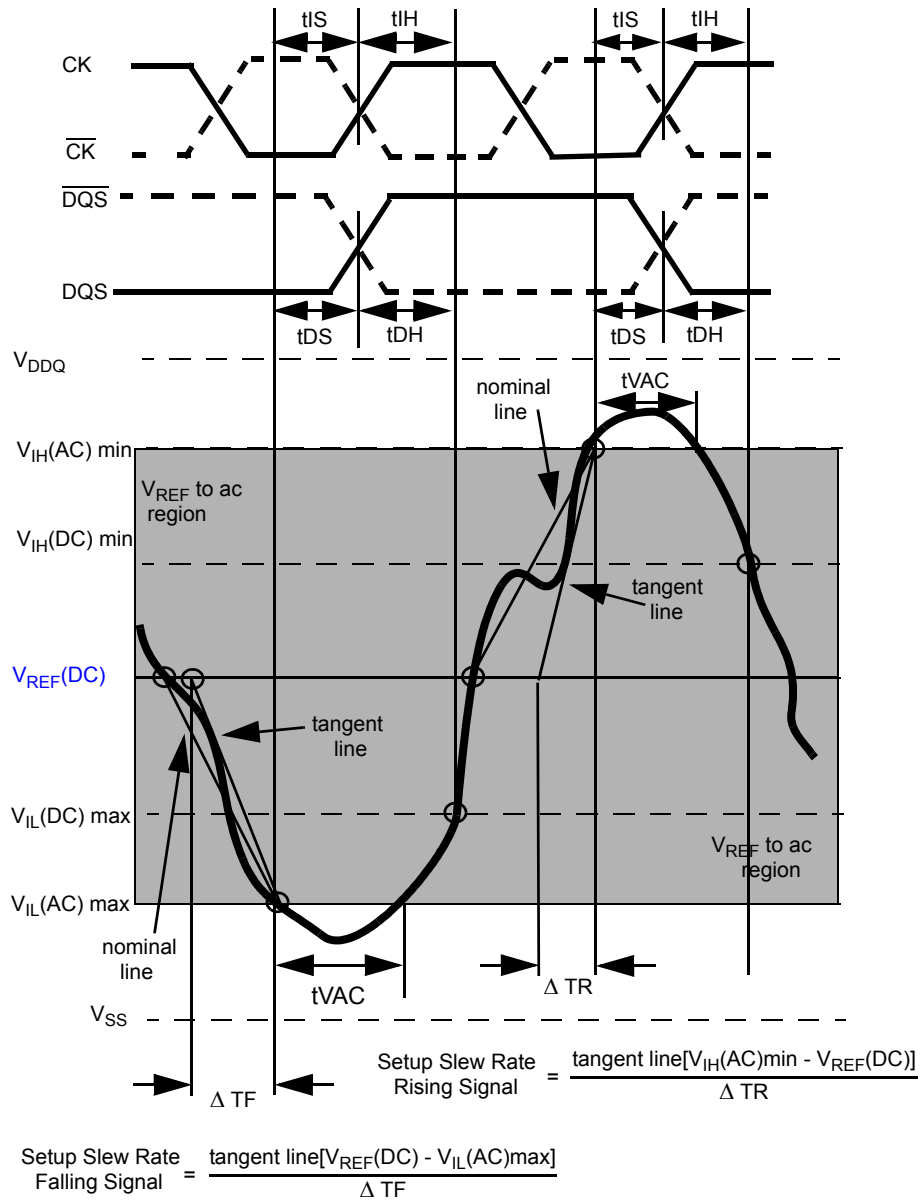

Figure 23. Illustration of tangent line for setup time tDS (for DQ with respect to strobe) and tIS (for ADD/CMD with respect to clock)
Example: tIS (total setup time) = tIS(base) + ΔtIS Setup (tIS) nominal slew rate for a rising signal is defined as the slew rate between the last crossing of VREF(DC) and the first crossing of VIH(AC)min. Setup (tIS) nominal slew rate for a falling signal is defined as the slew rate between the last crossing of VREF(DC) and the first crossing of VIL(AC)max. If the actual signal is always earlier than the nominal slew rate line between shaded 'VREF(DC) to ac region', use nominal slew rate for derating value (see Figure 21). If the actual signal is later than the nominal slew rate line anywhere between shaded 'VREF(DC) to ac region', the slew rate of a tangent line to the actual signal from the ac level to dc level is used for derating value (see Figure 23).